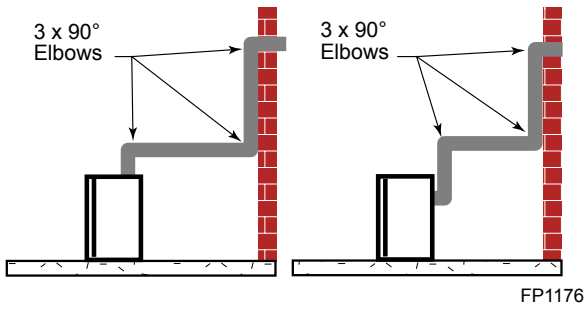
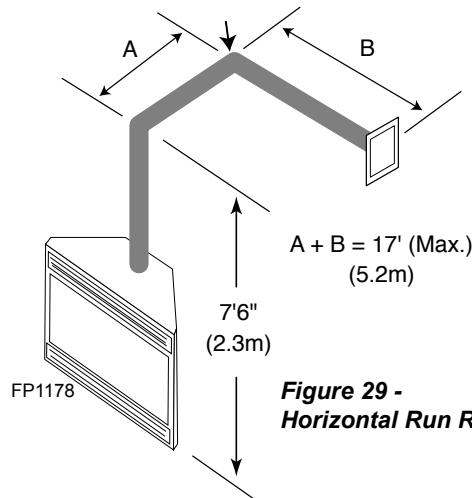

Figure 27 -
Figure 29 -
- The maximum number of 90° elbows per side wall installation is three (3). Figure 27
- If a 90° elbow is used in the horizontal vent run (level height maintained) the horizontal vent length is reduced by 36" (914 mm). Figures 29 & 30. This does not apply if the 90° elbows are used to increase or redirect a vertical rise. Figure 27